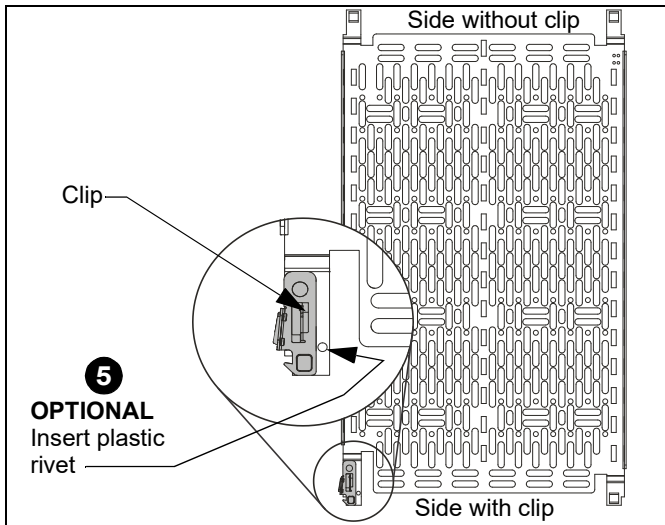

Figure 8
4. Return mounting plate to storage panel by installing the side without the clip into the panel first, followed by the side with the clip until it clicks into place. (See Figure 8)
5. **OPTIONAL:** If desired, install plastic rivet (F) into hole next to clip to secure the mounting plate in place. (See Figure 8)